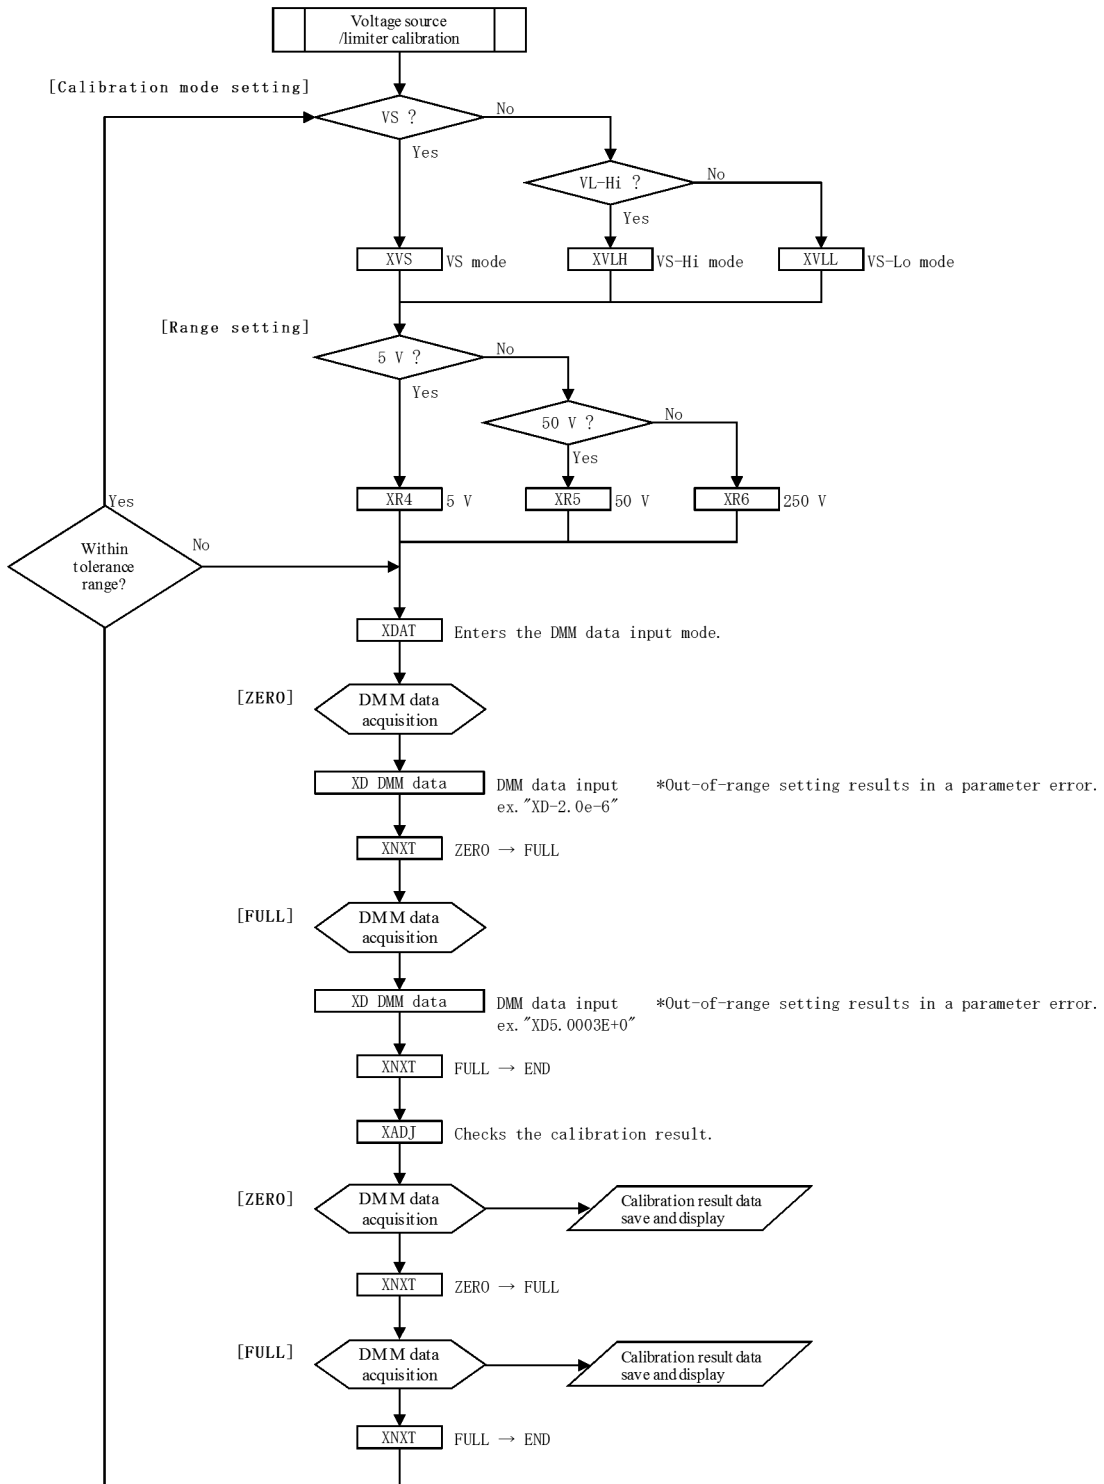
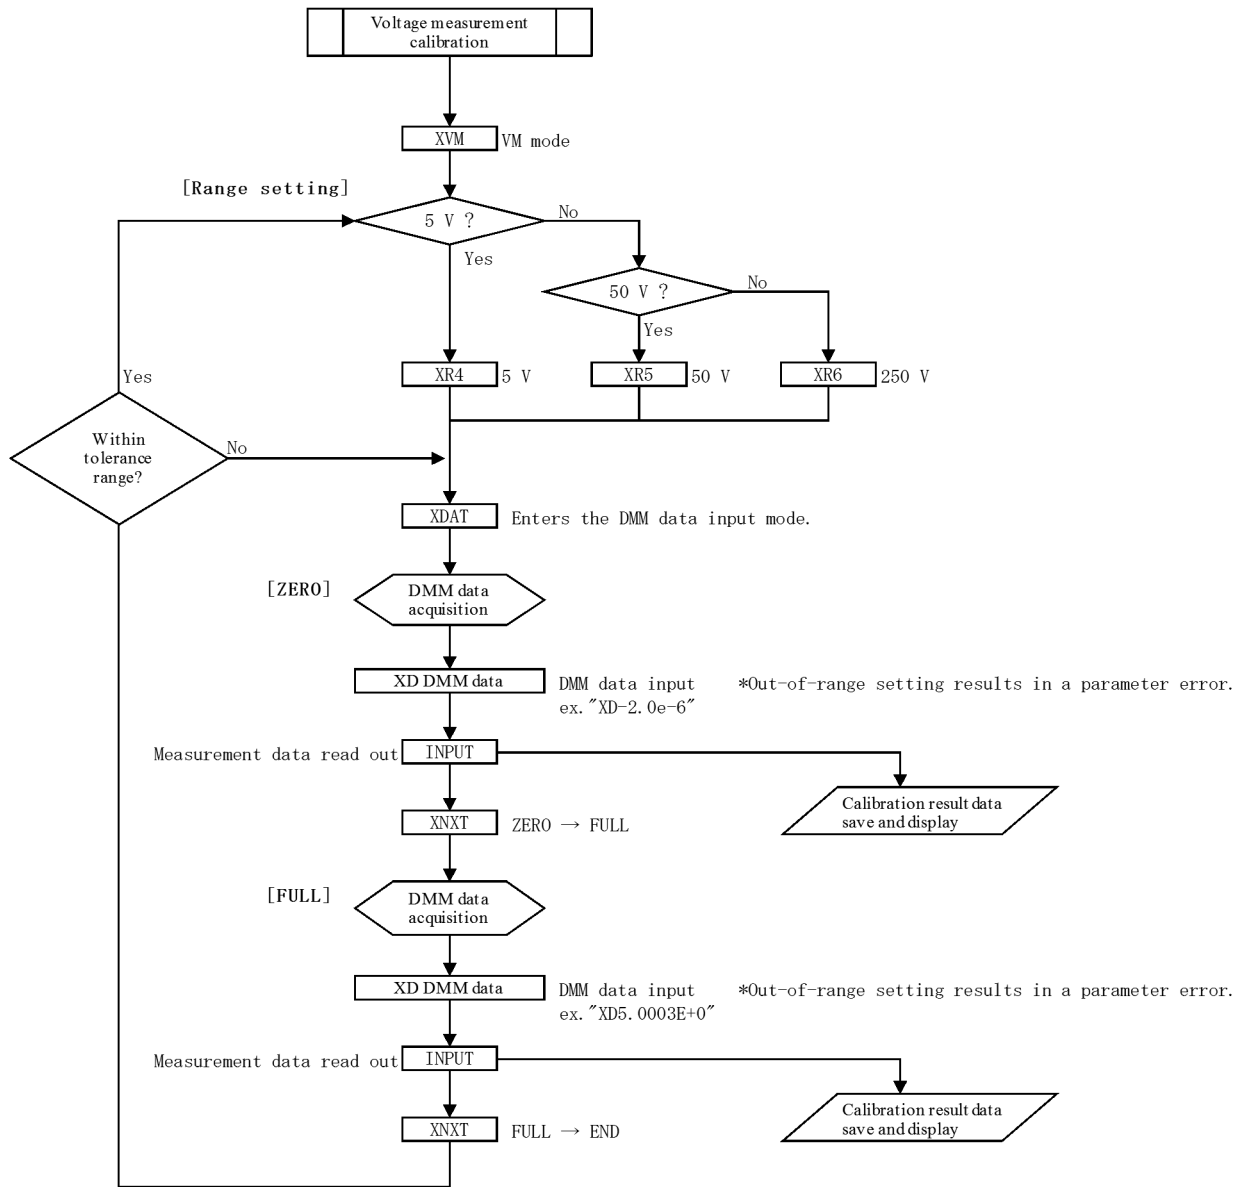

Figure 8-3 Calibration Procedure (2)
Figure 8-4 Calibration Procedure (3)
5. Execute the voltage source and limiter calibration and the voltage measurement calibration according to Figure 8-3 Calibration Procedure (2) and Figure 8-4 Calibration Procedure (3) respectively.